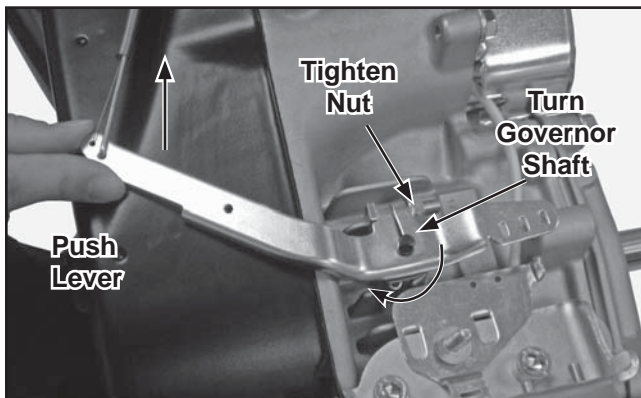

Figure 11-75. Governor Lever Adjustment.
2. Install the governor lever onto the shaft. Assemble the screw and locknut, but do not tighten. See Figure 11-75.
3. Push the governor lever in the direction indicated in Figure 11-75 and hold against the stop. Turn the governor shaft clockwise until it stops. Tighten the hex flange nut on the governor lever clamp bolt to lock the lever on the shaft. Torque the nut to 12 N·m (106 in. lb.).